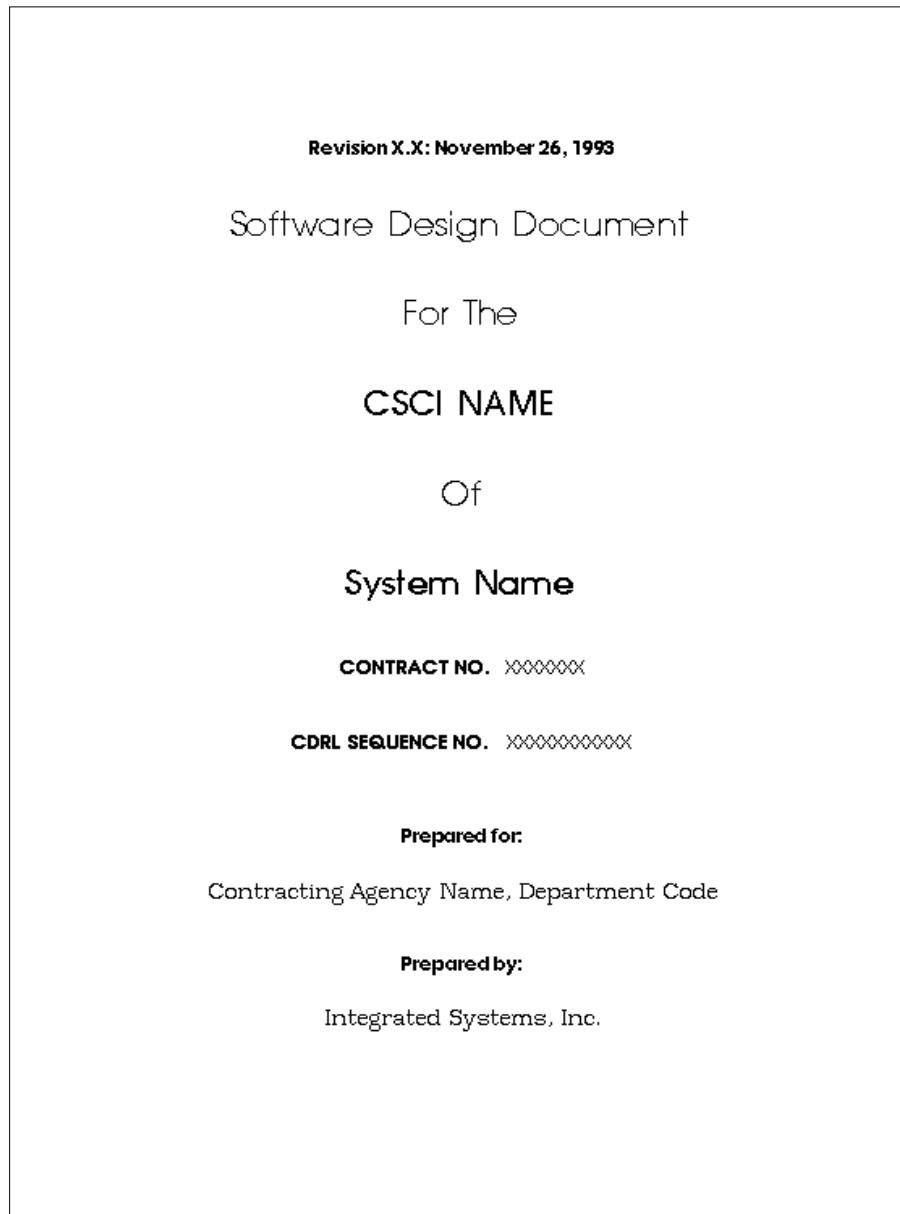

FIGURE D-1 Generic Title Page
12. The ASCII file that you have generated (in this case, controller_logic_mil.asc) includes a generic title page that appears as shown in Figure D-1 after it is opened from Interleaf. If you want to change the data on the title page, you can accomplish this in three different ways:
- Using a text editor you can edit the ilmil.tpl data. Figure D-2 shows the data in the ilmil.tpl file that produces the title page shown in Figure D-1. You should make these changes to ilmil.tpl *before* you generate the document from SystemBuild. All subsequent documents generated by DocumentIt using ilmil.tpl will continue to have your new title page (until you change the contents of ilmil.tpl again).
- Using a text editor you can edit the ASCII output file you have just generated. Figure D-2 shows the data in the example file controller_logic_mil.asc that produces the title page shown in Figure D-1. If you regenerate the document, you will have to edit this file again.